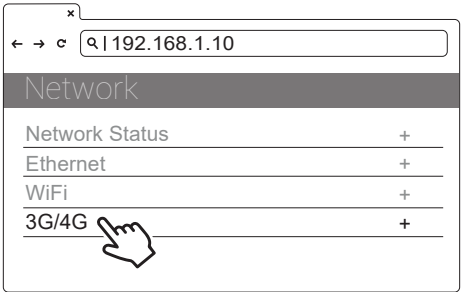

Figure 34. Network Select
- 4) Select: SET | Network | 3G/4G. See Figure 34.